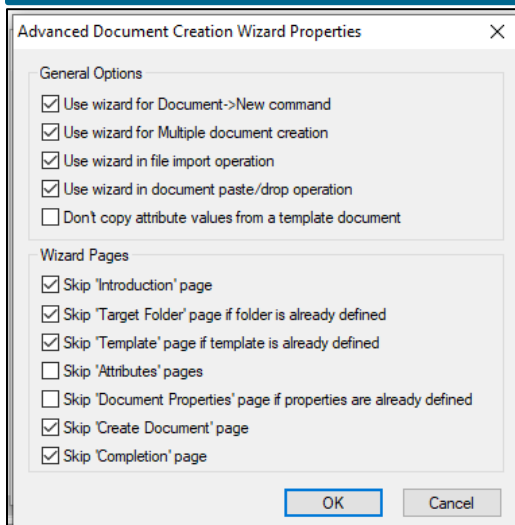

Figure 3.5. Recommended option selection for Advanced Document Creation Wizard Properties.
2. Select the “Properties” button. This will open Figure 3.5.
In the Advanced Document Creation Wizard Properties select the settings as shown in Figure 3.5.